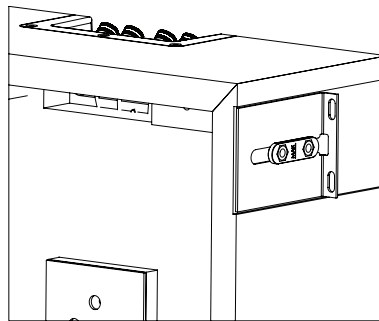

Figure 13
7. Position front edge of enclosure to be flush to wall surface or any wall treatment. Tighten screws. For installations with very thick wall treatment, consider reversing the enclosure L-brackets so they stick out from the wall. This will offer additional forward placement of the system (See Figure 13)